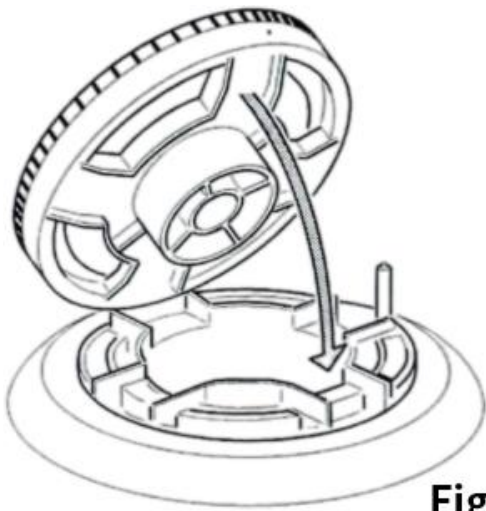

Fig.11
- The triple ring burner must be correctly positioned (Refer Fig.11); the burner rib must be entered into ligament as shown by the arrow.